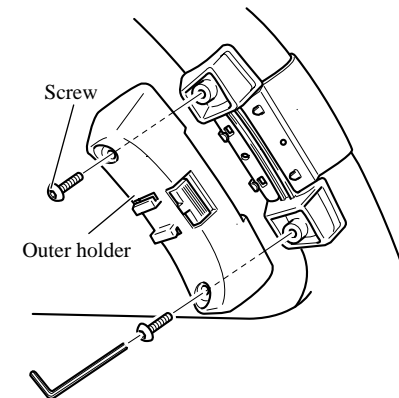

Fig. 17
3. Install outer holder on the inner holder and secure with screws. (Fig. 17)